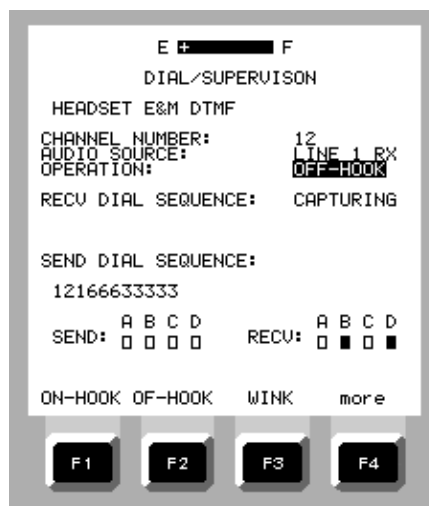

Figure 2-27. DIAL / SUPERVISION Screen
- e. DIAL SUPERVISION (Option 06) - Allows test set to originate or terminate calls into a digital switch or PBX from a T1 access point. (Figure 2-27)